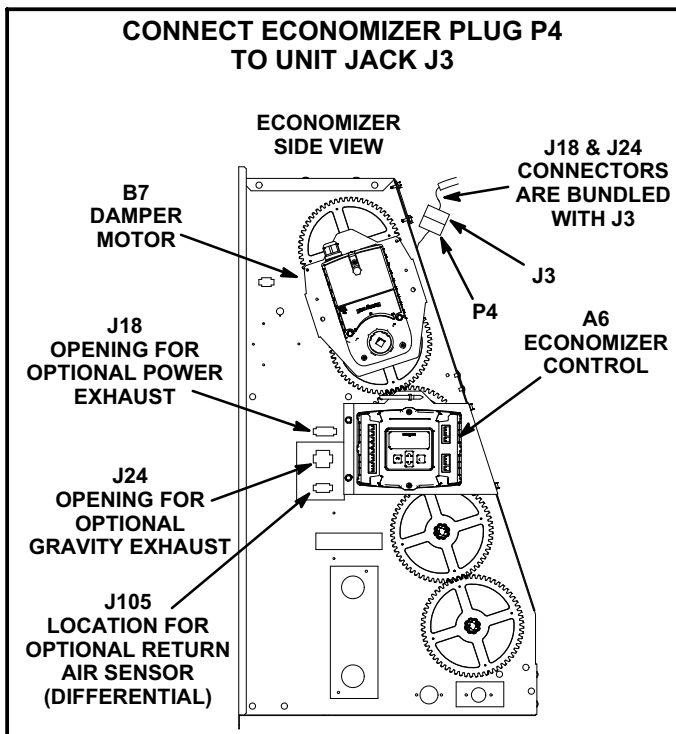

FIGURE 5
- 7- Connect economizer plug P4 to unit jack J3 hanging near the top of the filter section. See figure 5.
Locate J18 and J24 connectors bundled with J3. Insert connectors in openings shown in figure 5.